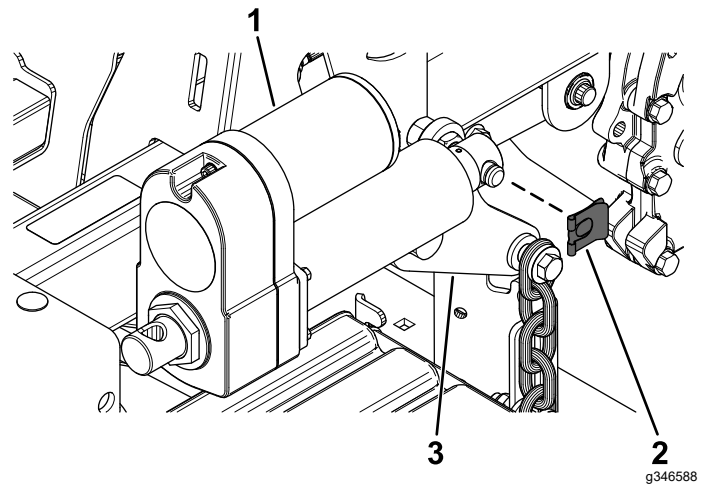

Figure 24
1. Secure the actuator to the rear deck-lift arm using the pin clip (Figure 24).